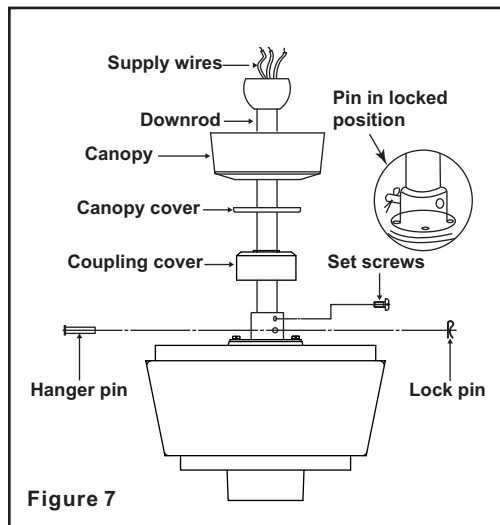

Figure 7
Step 5. Remove the hanger pin, lock pin and set screws from the top of the motor assembly. (Fig. 7)
Step 6. Route the wires exiting from the top of the fan motor through the coupling cover, canopy cover and canopy and then through the ball / downrod. (Fig. 7)
Step 7. Align the holes at the bottom of the downrod with the holes in the collar on top of the motor housing (Fig. 7). Carefully insert
the hanger pin through the holes in the collar and downrod. Be careful not to jam the pin against the wiring inside the downrod. Insert the locking pin through the hole near the end of the hanger pin until it snaps into its locked position, as noted in the circle inset of Fig. 7.
Step 8. Tighten two set screws on top of the fan motor firmly. (Fig. 7)